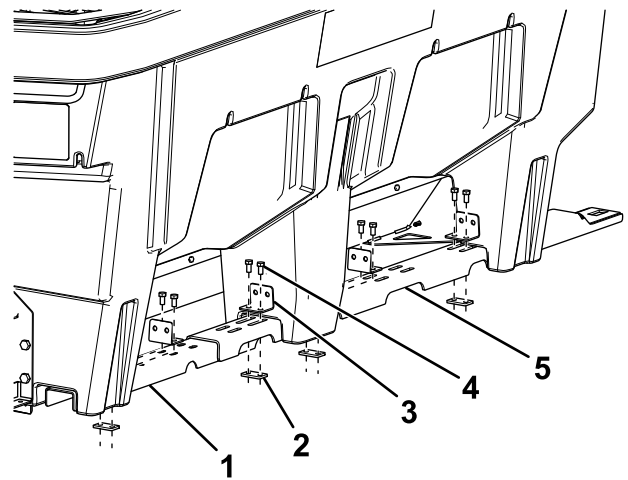

Figure 3
7. Slide both the long and short frame rails under the legs of the spreader (Figure 3). If you are installing the kit onto a VBX 6500 spreader, you do not need the short frame rails.
8. Loosely mount 8 L-brackets to the rails near each spreader leg using 16 bolts (3/8 inch) and 8 tap plates (Figure 3). If you are installing the kit onto a VBX 6500, use 6 L-brackets, 12 bolts (3/8 inch), and 6 tap plates.